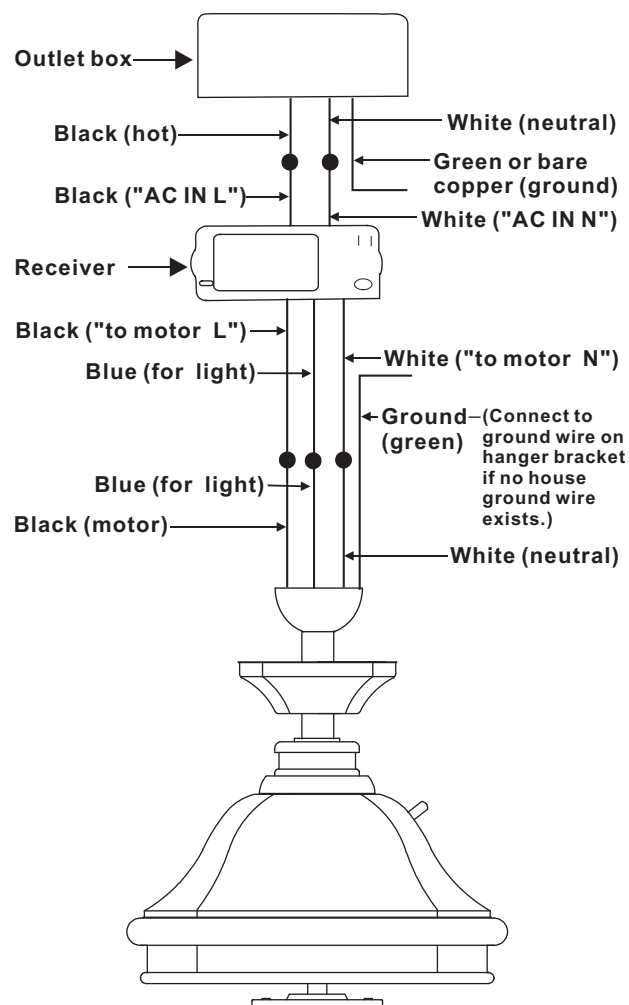

Figure 12
Step 2. (Figure 12) Motor to Receiver Electrical Connections: Connect the black wire from the fan to black wire marked "TO MOTOR L". Connect the white wire from the fan to the white wire marked "TO MOTOR N" from the receiver. Connect the blue wire from the fan to the blue wire marked "For Light" from the receiver. Secure the wire connections with the plastic wire nuts provided.
Step 3. (Figure 12) Receiver to House Supply Wires Electrical Connections: Connect the black (hot) wire from the ceiling to the black wire marked "AC in L" from the receiver. Connect the white (neutral) wire from the ceiling to the white wire marked "AC in N" from the Receiver. Secure the wire connections with the plastic wire nuts provided.
Step 4. (Figure 12) If your outlet box has a ground wire (green or bare copper) connect it to the fan ground wires; otherwise connect the hanging bracket ground wire to the mounting bracket. Secure the wire connection with a plastic nut provided. After connecting the wires, spread them apart so that the green and white wires are on one side of the outlet box and black and blue wires are on the other side. Carefully tuck the wire connections up into the outlet box.